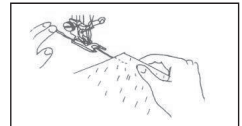

Fig 2
- Do not cut the thread tails. Leave them so that you can thread them through the Hemmer Foot. (Fig. 2)